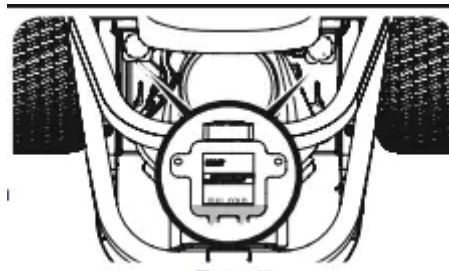

Figure 33
1. Clean the reservoir cap and the area around the cap to prevent debris from contaminating the transmission oil. See Figure 33.
2. Turn the reservoir cap counter-clockwise to remove, then check the oil level in the reservoir. Oil should be visible at the bottom of the cup, but the oil level must NOT be above the “FULL COLD” line. See Figure 33. DO NOT FILL THE RESERVOIR.
1. Remove the cap from the transmission oil expansion reservoir. See Figure 33.